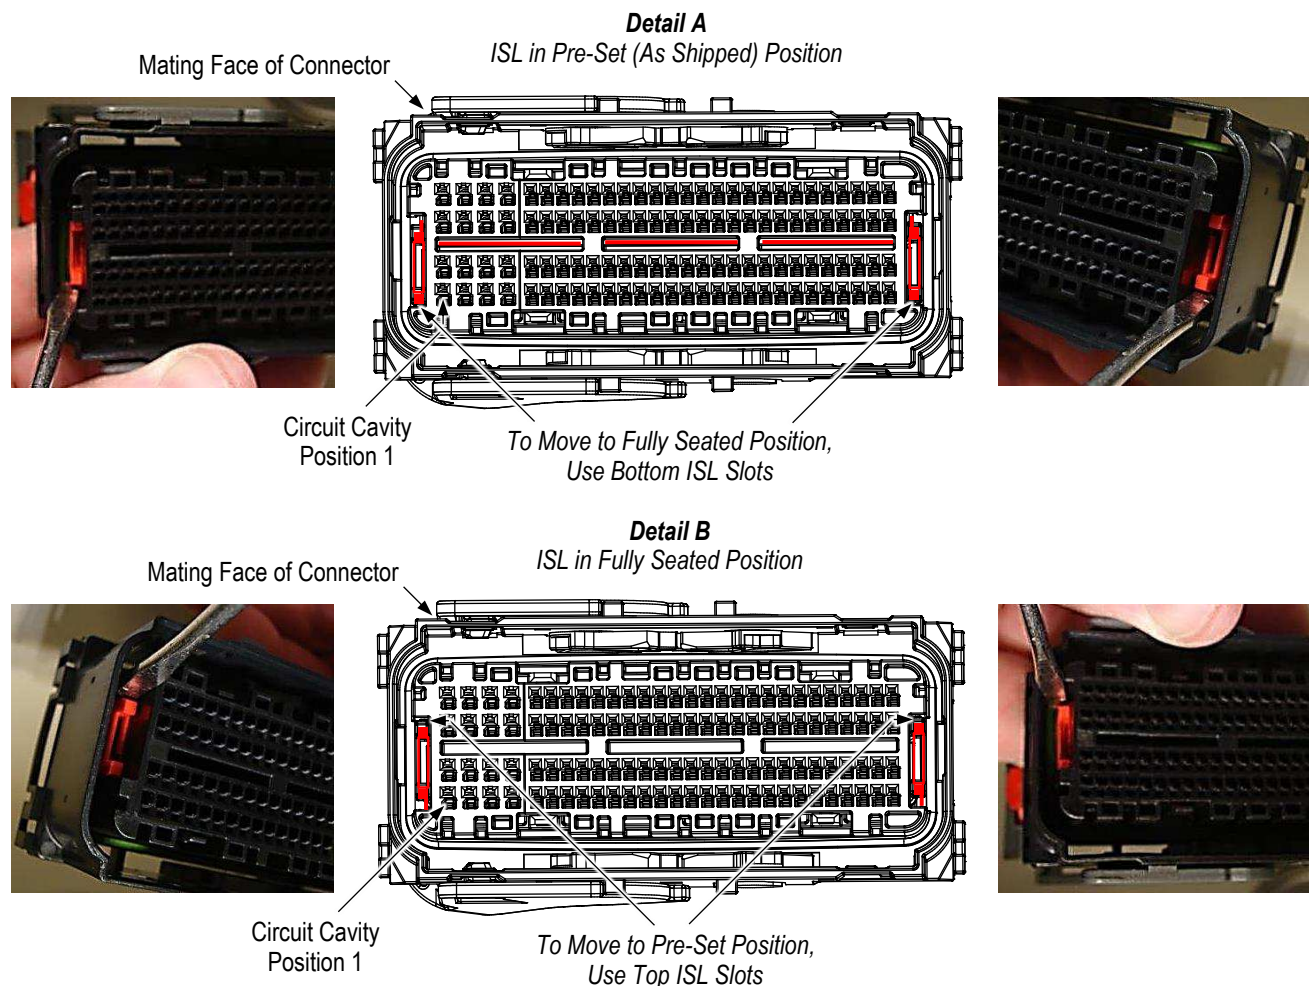
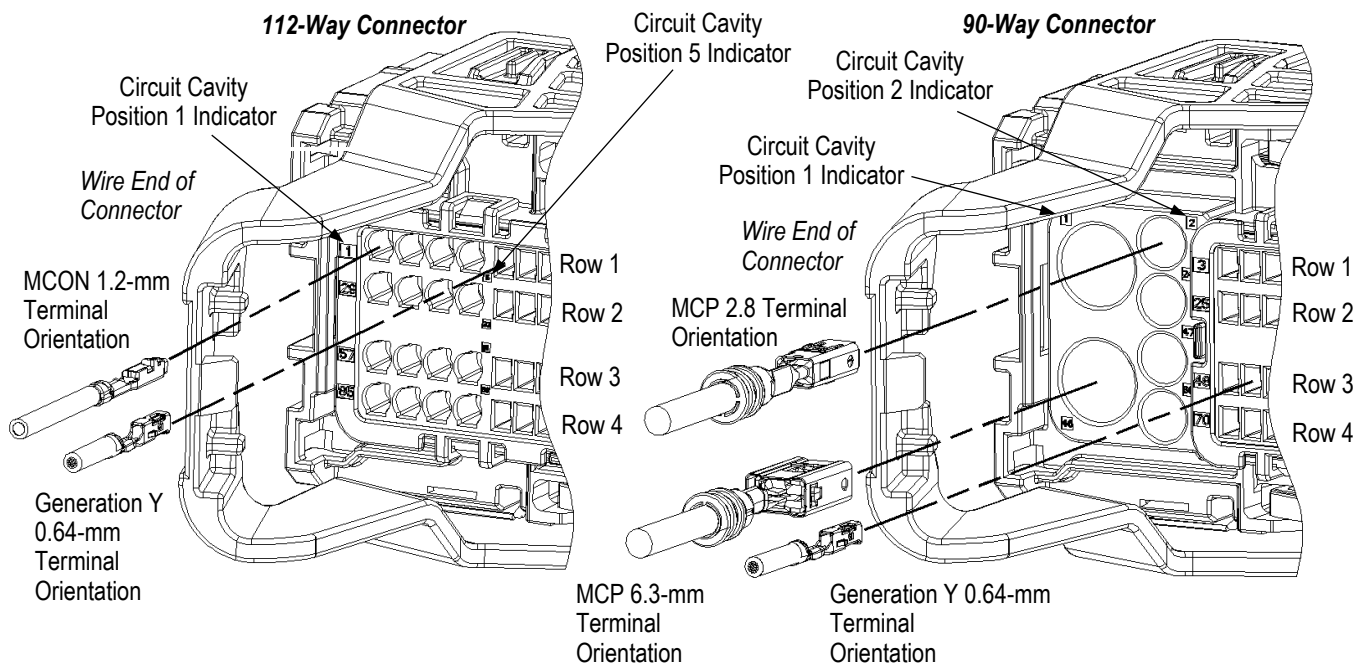

Figure 2
Figure 3
The ISL is in the pre-set position when, from the mating face of the connector, the red ISL is visible in the connector center slots as shown in Figure 2, Detail A. If it is not, from the mating face of the connector with circuit cavity position 1 oriented at the bottom left, alternately insert the tip of a small screwdriver into the top ISL slots, and move the ISL down until it stops. There will be an audible click from each side.
The ISL is in the fully seated position when, from the mating face of the connector, the red ISL is not visible in the connector center slots as shown in Figure 2, Detail B. To move the ISL to the fully seated position, from the mating face of the connector and the connector oriented with circuit cavity position 1 at the bottom left, alternately insert the tip of a small screwdriver into the bottom ISL slots, and move the ISL up until it stops. There will be an audible click from each side.
3. Circuit cavities are polarized so terminals are inserted in correct orientation. Align terminal with selected circuit cavity as illustrated in figure 3.
4. Insert the terminal into the cavity until it bottoms. There should be an audible or tactile click when the terminal is locked into place. Gently pull the wire to ensure the terminal is locked into place. If the terminal does not lock into the cavity check to verify that the ISL is open per figure 2 and that the terminal is in correct orientation to the circuit cavity per figure 3 and re-insert the terminal. For circuits with individual wire seals, check to ensure that the seal is below the top of the circuit cavity after successful insertion of terminal.